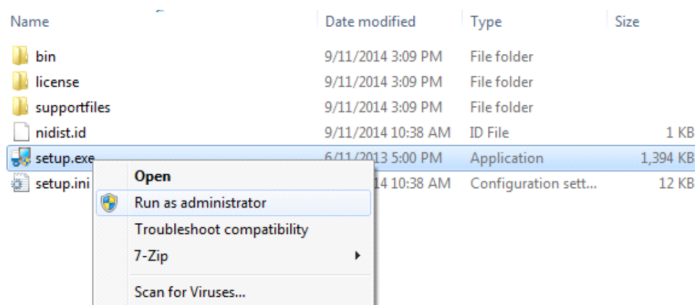

Figure 1. Select Run Administrator When Executing the Installer
- (A) To install the software run the setup.application from the link below (<http://www.ti.com/tool/tps22993evm-033>) by right clicking and saying “Run as Administrator, see Figure 1.